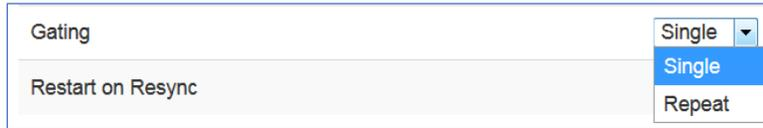

Figure 112: BERT, Gating Drop Down Menu
- Gating –Selects the action that occurs when the current measurement completes, as shown in Figure 112; this can be to stop, or to run a new measurement